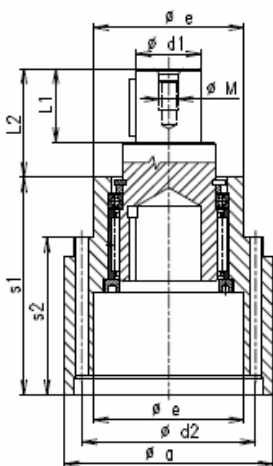

Fig. 12
5. Extension part PC (Fig. 12)